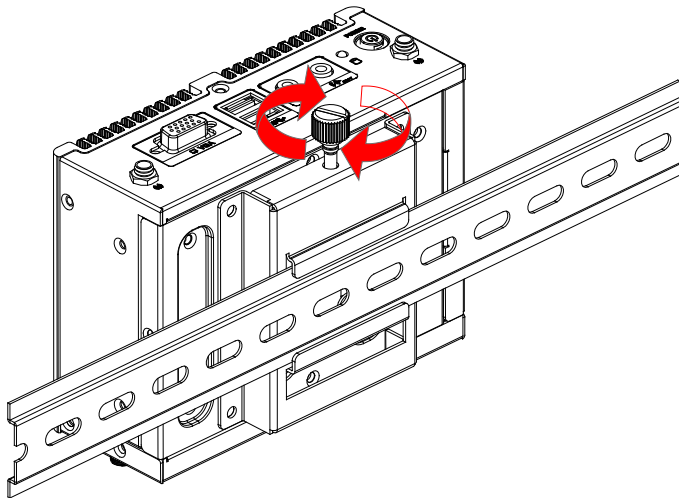

Figure 3-19: Secure the Assembly to the DIN Rail
Step 4: Secure the DIN rail to the mounting bracket by turning the top screw clockwise. This draws the lower clamp up and secures the embedded system to the DIN rail (**Figure 3-19**).